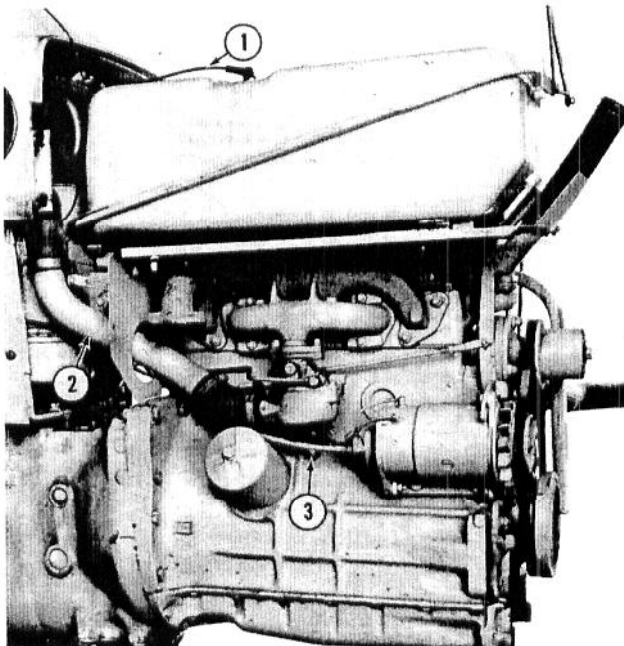

Fig. 10 — RIGHT-HAND VIEW OF GAS ENGINE SEPARATED FROM FRONT AXLE SUPPORT
17. Separate the gasoline engine from the transmission as follows: Refer to Figs. 10, 11, 12 and 13.